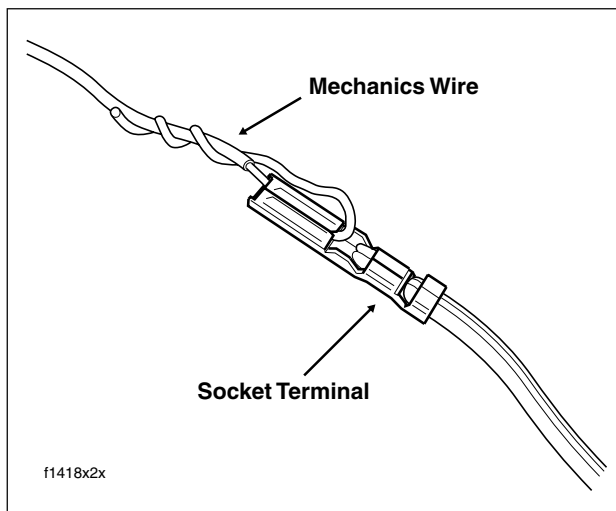

Figure 8-54. Fix Mechanics Wire to Socket Terminals
- Obtain three equal lengths of strong flexible wire for use as mechanics wire. Feed wire through opening in socket terminal and then loop back twisting end until tightly coiled around longer strand as shown in Figure 8-54. Repeat step with remaining socket terminals.